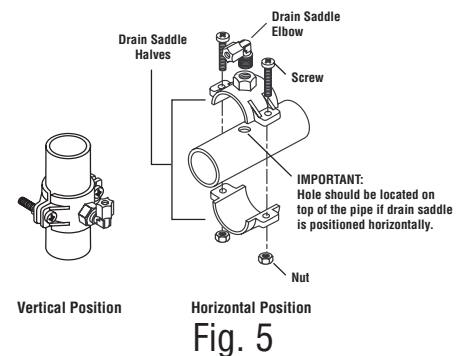

Fig. 5
- 4) Use the screws and nuts to clamp the drain saddle onto the drain pipe. Make sure that there is equal space between saddle halves on each side. Do not overtighten (See Fig. 5).